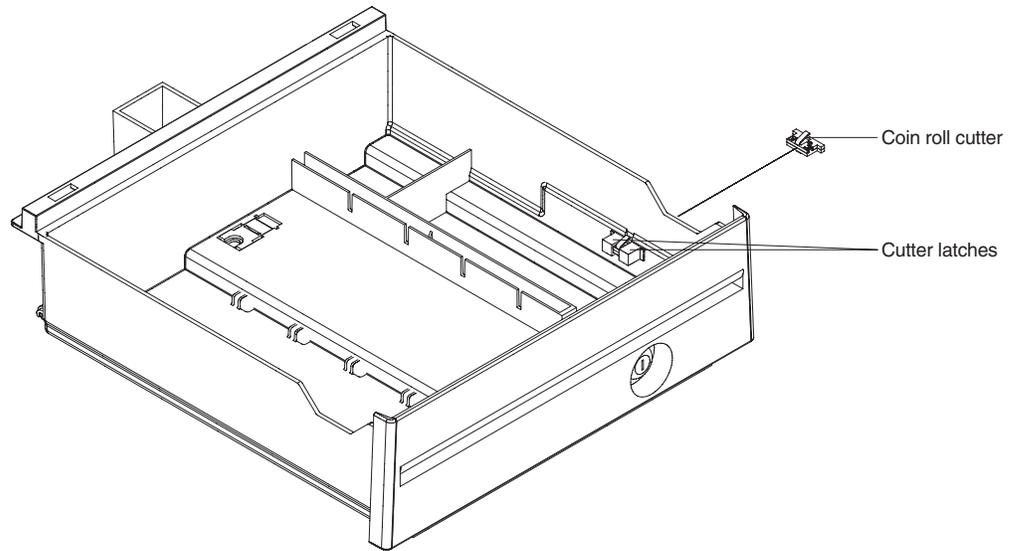

Figure 15. Removing the coin roll cutter
3. From inside the drawer, squeeze the cutter latches together with your fingers and push the cutter outward until it can be removed from the outside (see Figure 15 on page 17).